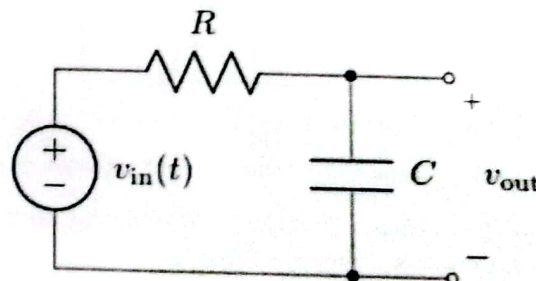

Figure 1.11
- Using Figure 1.11, calculate the time constant and record it in Table 1.7. Also, calculate and record the expected steady state inductor current.